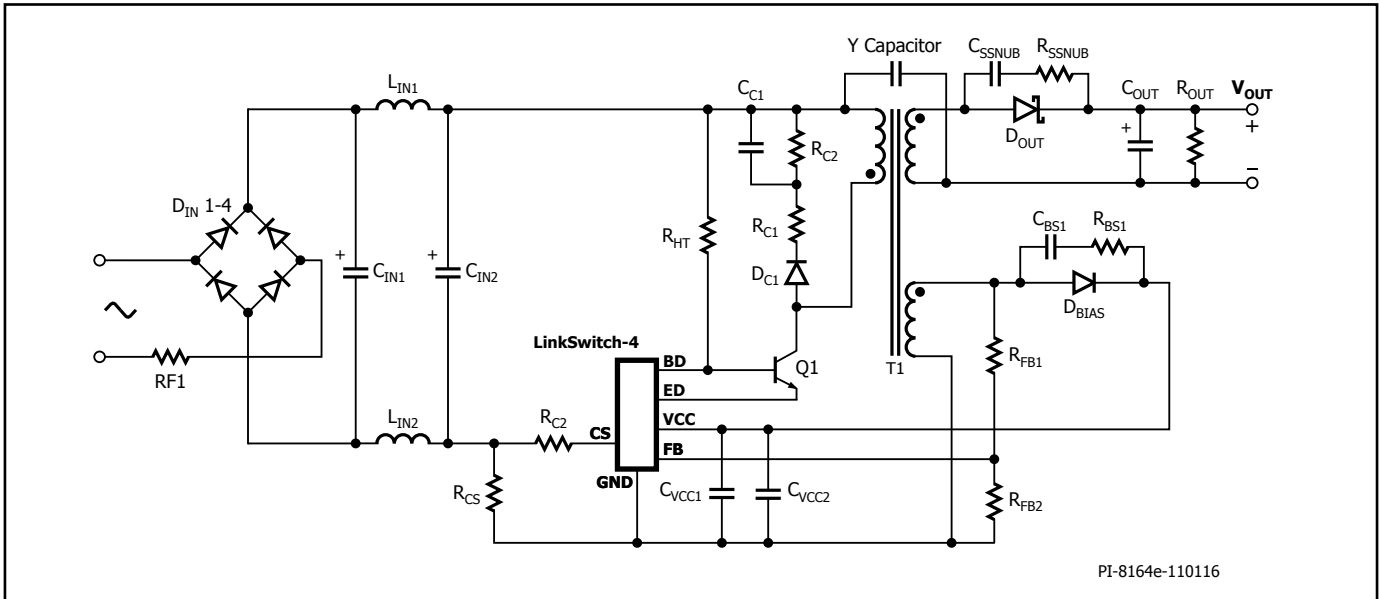

Figure 33. Y Capacitor Connection.
- A Y capacitor is effective at reducing EMI conducted emissions, particularly in the upper bands of 10 MHz plus. Power levels of 10 W and above may benefit from the use of a Y capacitor. However, only low values should be used in wall adapters, about 470 pF maximum, due to leakage currents presenting an unpleasant mild shock risk. The Y capacitor should be connected from the $+HT$ pin of the transformer primary to the $-V_E$ of the secondary output as shown in Figure 33. The Y capacitor provides a path for the high frequency current through the transformer, capacitively coupled from the primary to the secondary windings, to loop back to the primary side, instead of flowing down the output lead in a loop via the EMI test equipment (LISN) and back up in a loop via the AC input leads to the primary side. Currents flowing through the Y capacitor will not be measured by the LISN so the resulting measurements will be lower.